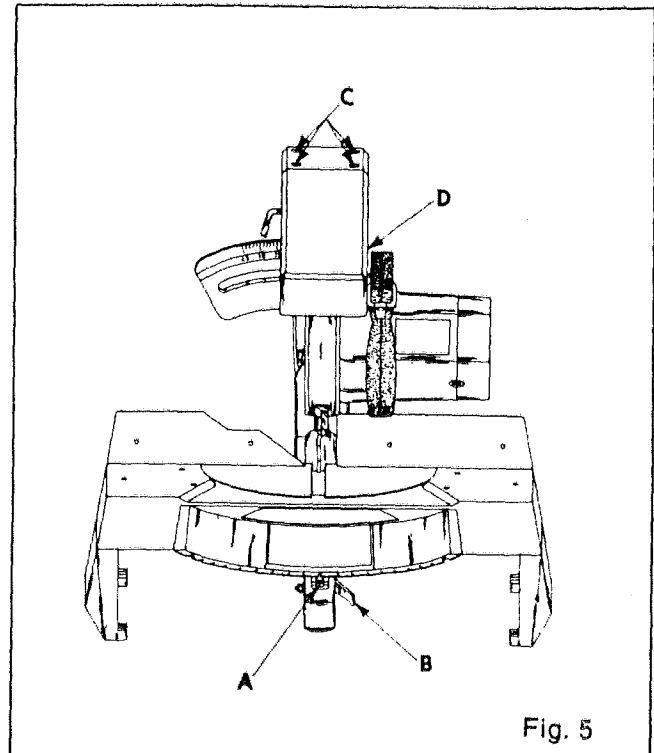

Fig. 5
**NOTE:** The design of this saw requires that the blade be slightly off set to the right of the turntable slot. See Fig. 5.
It is now necessary to visually check the blade alignment with the center of the turntable slot. See Fig. 5.